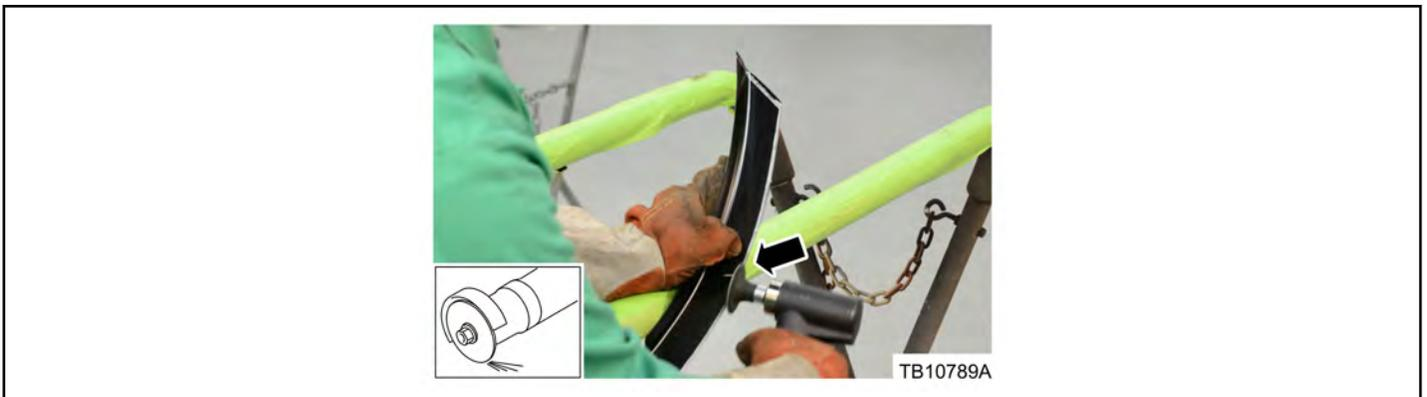

Figure 7 - Article 15-0157
18. Lightly grind smooth the outer edges of both cut panels. (Figure 7)